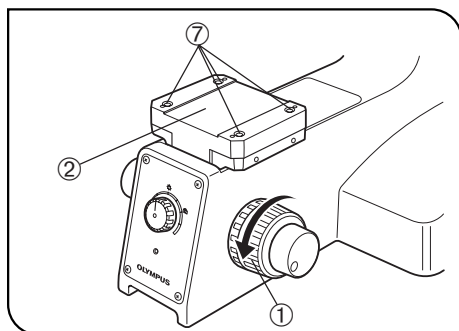

Fig. 29
(Figs. 29 to 32)
1. Turn the coarse adjustment knob ① in the direction of the arrow to lower the reflected light spacer ② to the lower limit. (Fig. 29)
2. Using the Allen wrench, remove all the screws (x 8) from the transport clamping plates ③ (x 2) of the stage.
(Fig. 29)
◎ The reflected light spacer ② (Fig. 29) should be removed from the microscope to attach the MX-TILLK.